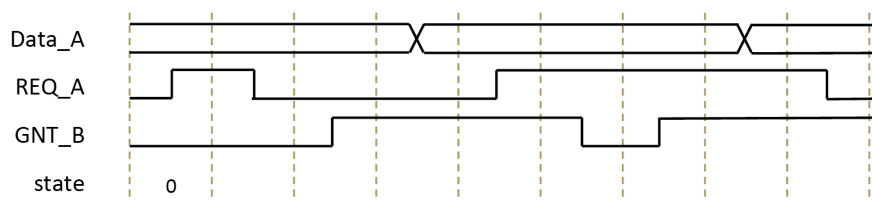

Figure 3.2
- (a) Complete the timing diagram of *Figure 3.2* by showing the sequence of states that the state machine follows and the waveform of the signals LD, GNT_A, REQ_B and Data_B. The vertical lines in the figure denote the rising edges of CLK and the state machine is initially at state 0.